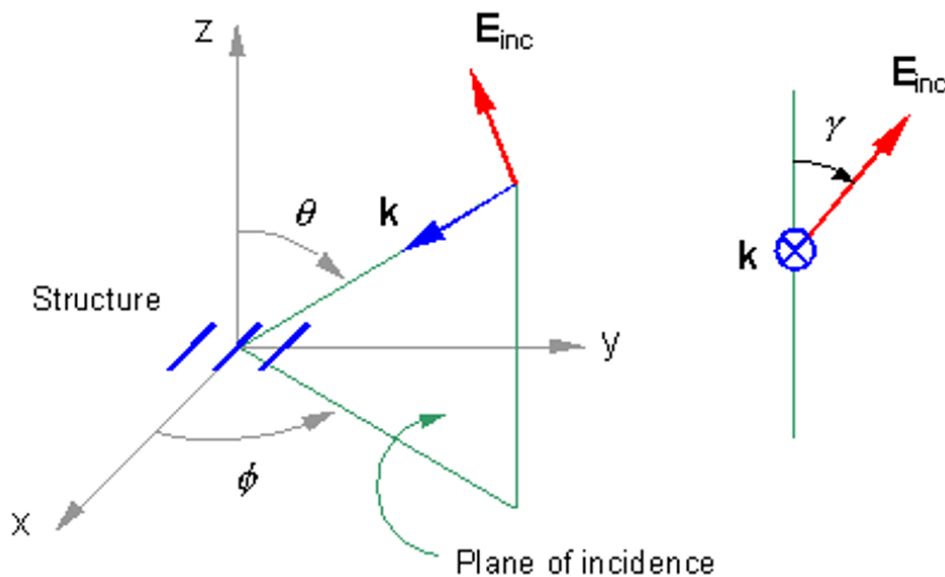

Fig. 1: Parameters of an incident field.
**Phi:** Azimuth angle of the incident direction in degrees, Fig. 1.